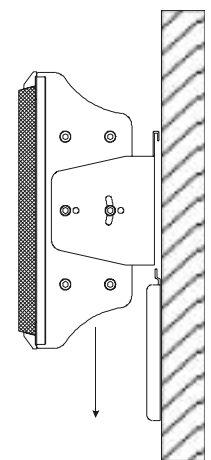

Figure 21
8. With two persons supporting the XR27 Loudspeaker, position it with the rear of the Wall Hanger almost touching the wall and above the mounted Wall Bracket. Slowly lower the Loudspeaker down and align the top bent over portion of the Wall Hanger with the top of the mounted Wall Bracket. Refer to figures 21 and 22.